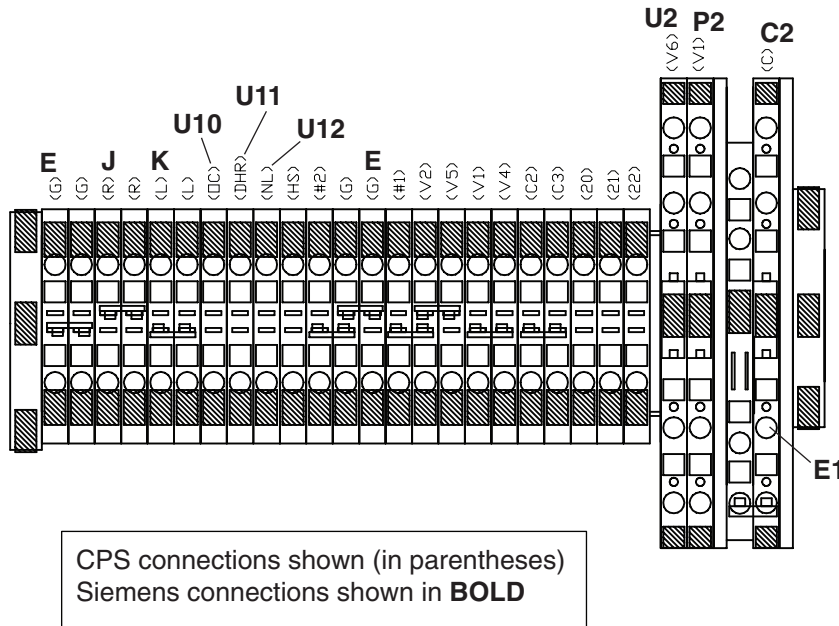

Figure 6.
21. Connect remaining leads per Table 1 and Figures 6 and 7. A decal (see Figure 3) is located in the bottom of the control box as a reference for wiring connections from the Siemens voltage regulator to the CRA terminal board and switches. The Siemens connections are labeled in Red and Cooper Identification is labeled in Black.